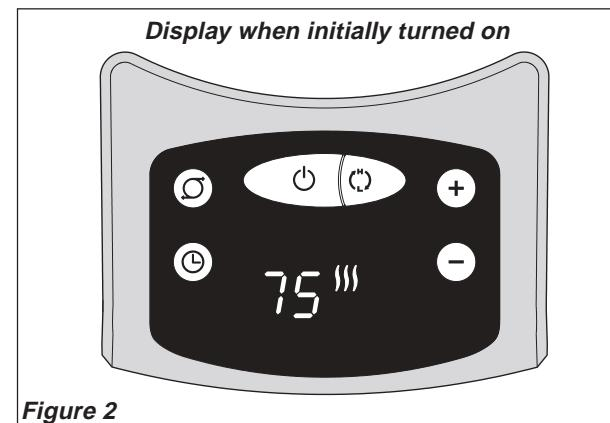

Figure 2
6. Upon turning the Heater on, the unit will be in HIGH heat (III) (1500 Watts) and will display the current room temperature (Figure 2)
7. Press the (Ø) button for LOW heat (II). (900 Watts)